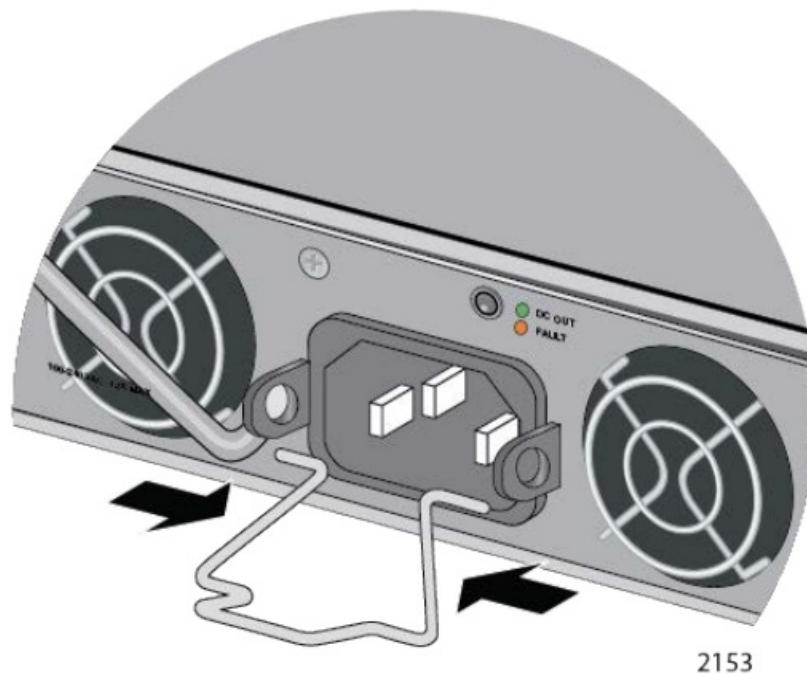

Figure 25. Installing the Power Cord Retaining Clip
7. If you installed the AT-PWR150, AT-PWR250, or AT-PWR800 Power Supply, install the power cord retaining clip on the AC plug. Press the sides of the clip inward and insert the two ends into the holes on the AC socket. Refer to Figure 25.